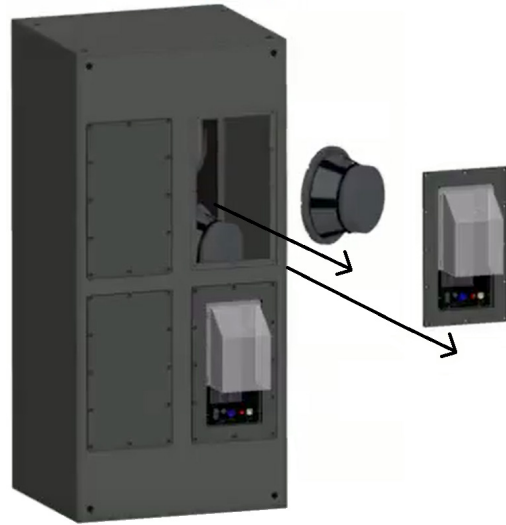

Figure 25: A-2306 Removal
- c. Pull off the bad driver (**Figure 25**).